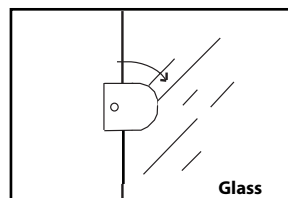

Fig. 2.
2. Turn the two securing brackets back to their original position to retain the glass and tighten the screws. (Fig. 2.)
- (e) Finally the oven unit must be secured to the cabinet. Position the oven side trims equally about the cabinet sides. This should give an overlap of approx. 1.5mm per side (see Fig. 2). Secure the oven unit to the cabinet, through the side trims, by means of the four screws provided, two each side trim.